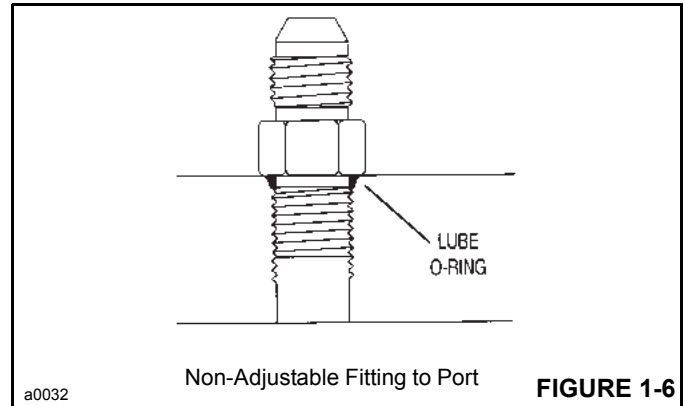

FIGURE 1-6
2. Lubricate O-ring with clean oil ((Figure 1-6)).